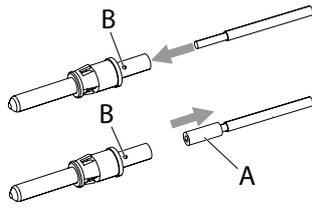

Fig. 10: Pilot contacts
1. Push the bare cable braid into the connection area of the contact (*Fig. 10* or *Fig. 12*).
1. Push the reducing bushing (A) as shown in *Fig. 10* or *Fig. 12* onto the bare cable braid and push the cable braid together with the reducing bushing into the connection area of the contact.
2. Push the cable braid (if necessary including the reducing bushing) into the contact until it is visible in the checking hole (*Fig. 10/B* or *Fig. 12/B*)